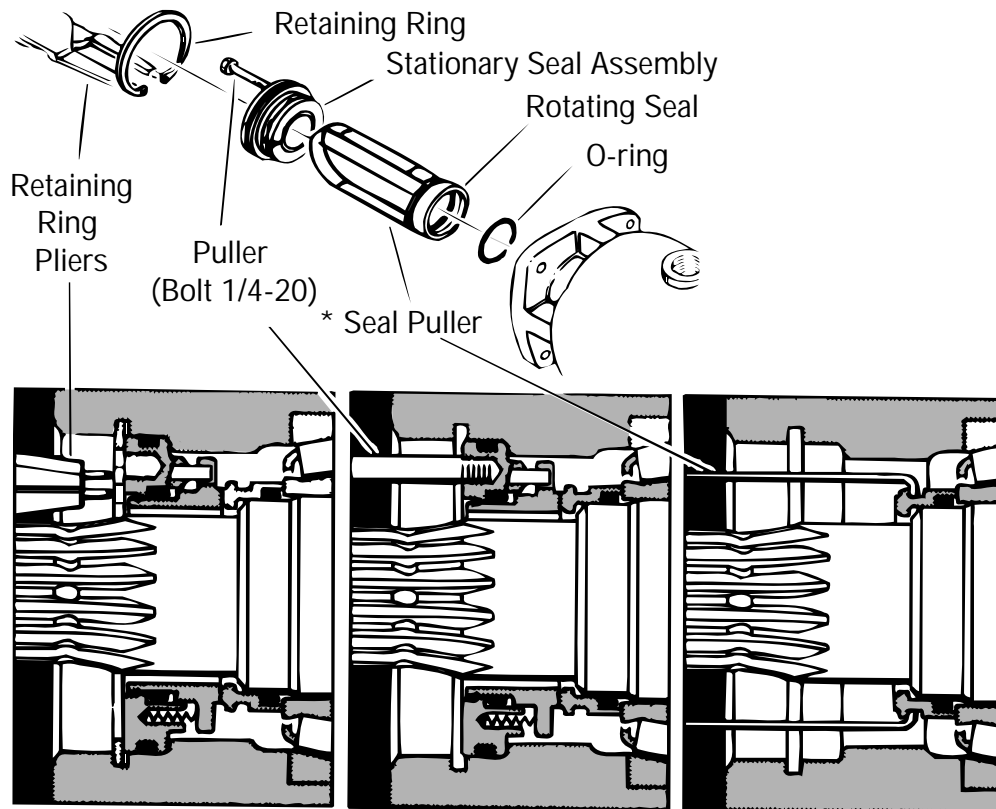

Figure 1
3. Use rotating seal puller\* (Figure 1) to grip outside diameter of bronze rotating seal. Remove seal from output shaft.